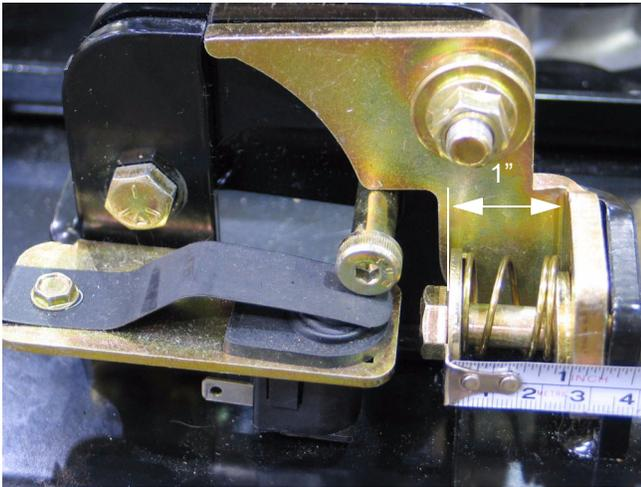

Figure 10.12
10.12. Assembly notes: See Figure 10.12.